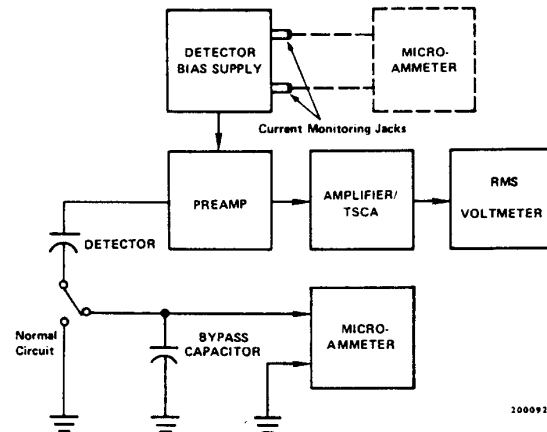
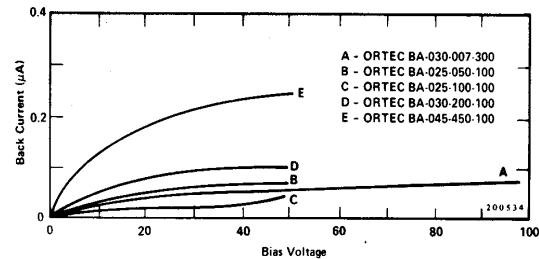

Fig. 4.7. System for Detector Current and Voltage Measurements.
Fig. 4.8. Silicon Detector Back Current vs Bias Voltage.
**CURRENT-VOLTAGE MEASUREMENTS FOR Si and Ge DETECTORS** The amplifier system is not directly involved in semiconductor detector current-voltage measurements, but the amplifier serves to permit noise monitoring during the setup. The detector noise measurement is a more sensitive method than a current measurement of determining the maximum detector voltage that should be used because the noise increases more rapidly than the reverse current at the onset of detector breakdown. Make this measurement in the absence of a source. Figure 4.7 shows the setup required for current-voltage measurements. An ORTEC 428 Bias Supply is used as the voltage source. Bias voltage should be applied slowly and reduced when noise increases rapidly as a function of applied bias. Figure 4.8 shows several typical current-voltage curves for ORTEC silicon surface-barrier detectors.
When it is possible to float the microammeter at the detector bias voltage, the method of detector current measurement shown by the dashed lines in Fig. 4.7 is preferable. The detector is grounded as in normal operation and the microammeter is connected to the current monitoring jack on the 428 Detector Bias Supply.